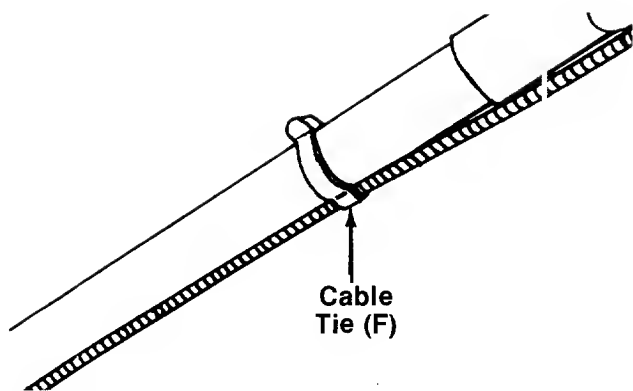

FIGURE 12.
15. Secure the control cables to handle with cable ties (F) provided. See figure 12.
16. Insert plastic plug (J) into hole in the top rear of the deck by slipping one end of plug into hole, then pressing down on the other end of plug.